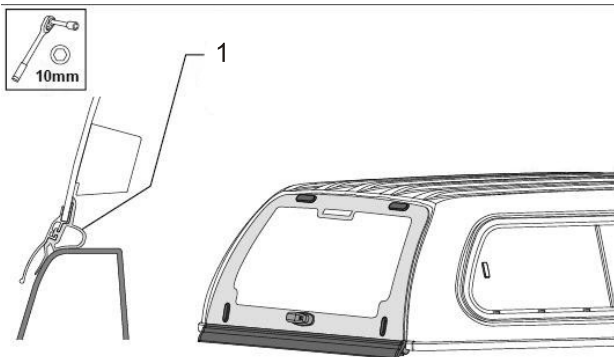

Figure 8
1. With both side windows open, test both rear door keys work to lock and unlock the rear door. Confirm that the door seal (1) is on the tailgate. Refer to figure 8.